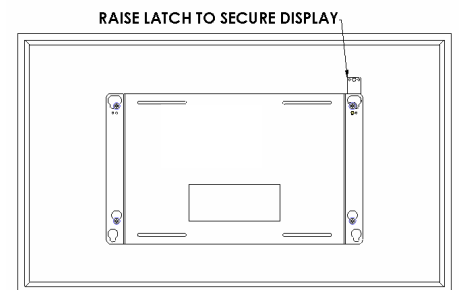

Figure 5
5. Raise safety latch to secure plasma in place (see Figure 5).